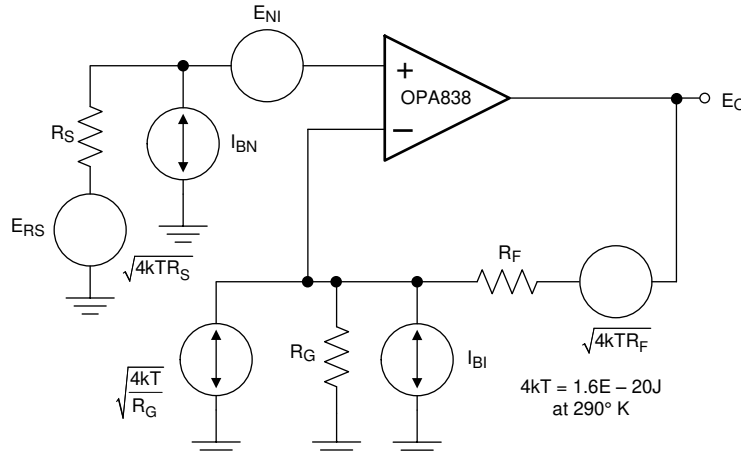
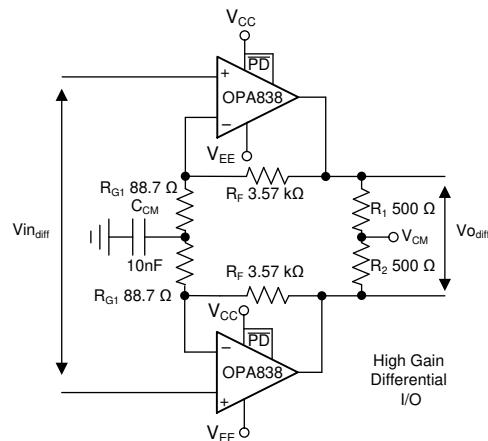

図 8-3. Op-Amp Noise-Analysis Model
图 8-4. High-Gain Differential I/O Stage
The decompensated voltage feedback of the OPA838 op amp offers among the lowest input voltage and current noise terms for any device with a supply current less than 1 mA. 図 8-3 shows the op amp noise analysis model that includes all noise terms. In this model, all the noise terms are shown as noise voltage or current density terms in nV/√Hz or pA/√Hz.
The total output spot noise voltage is computed as the square root of the squared contributing terms to the output noise voltage. This computation is adding all the contributing noise powers at the output by superposition, then taking the square root to return to a spot noise voltage. 式 3 shows the general form for this output noise voltage using the terms presented in 図 8-3.
A high-gain differential-to-differential I/O circuit can be used to drive a second-stage FDA or a differential-to-single-ended stage. This circuit is frequently used in applications where high input impedance is required (for example, if the source cannot be loaded). 図 8-3 illustrates an example design where the differential gain is 41 V/V. An added element between the two R_G resistors increases the noise gain for the common-mode feedback. Make sure to provision for the added element; otherwise, a decompensated VFA (such as the OPA838) often oscillates. With only the R_G elements in the differential I/O design, the common-mode feedback is
As an example design, start with the circuit in 图 8-4.
- Assess the DC common-mode biasing on the noninverting inputs. The DC biasing must be in range and have a gain of 1 to the output. This is not illustrated in 图 8-3.
- If a DC reference is used as the mid- R_G bias, setting the reference equal to the noninverting input bias voltage sets the output common-mode to that voltage. Using a capacitor as illustrated in 图 8-3 accomplishes the same results.
- Set the total R_G value near the high gain values using 表 8-1. This 178- Ω total must be split for a center tap to increase the common-mode noise gain, as shown by the 88.7- Ω value in 図 8-4.
The common-mode loop instability without the R_G center tap is not often apparent in the closed-loop differential simulations. The common-mode loop instability without the R_G center tap can often be detected in a common-mode output-noise simulation as 図 8-5 shows. Grounding the inputs 図 8-4 and running an output-noise simulation for the common-mode tap point in 図 8-3 shows a peaking in the noise at high frequency. This peaking indicates low-phase margin for the common-mode loop. 図 8-5 shows this peaking in the lowest noise curve, with two options for improving phase margin. The first option used in 図 8-4 is a capacitor to ground set to increase the common-mode noise gain only at higher frequencies. This increase can be seen by the peaking in the common-mode noise of 図 8-5. Another alternative is to provide a dc voltage reference on the R_G center tap. This method raises the common-mode noise gain from dc and beyond. Neither of these latter two options show any evidence of low phase-margin peaking. These two options do increase the output common-mode noise significantly at lower frequencies. Typically, an increase in output common-mode noise is more acceptable than low-phase margin because the next stage (FDA, ADC, differential to single stage) rejects common-mode noise.